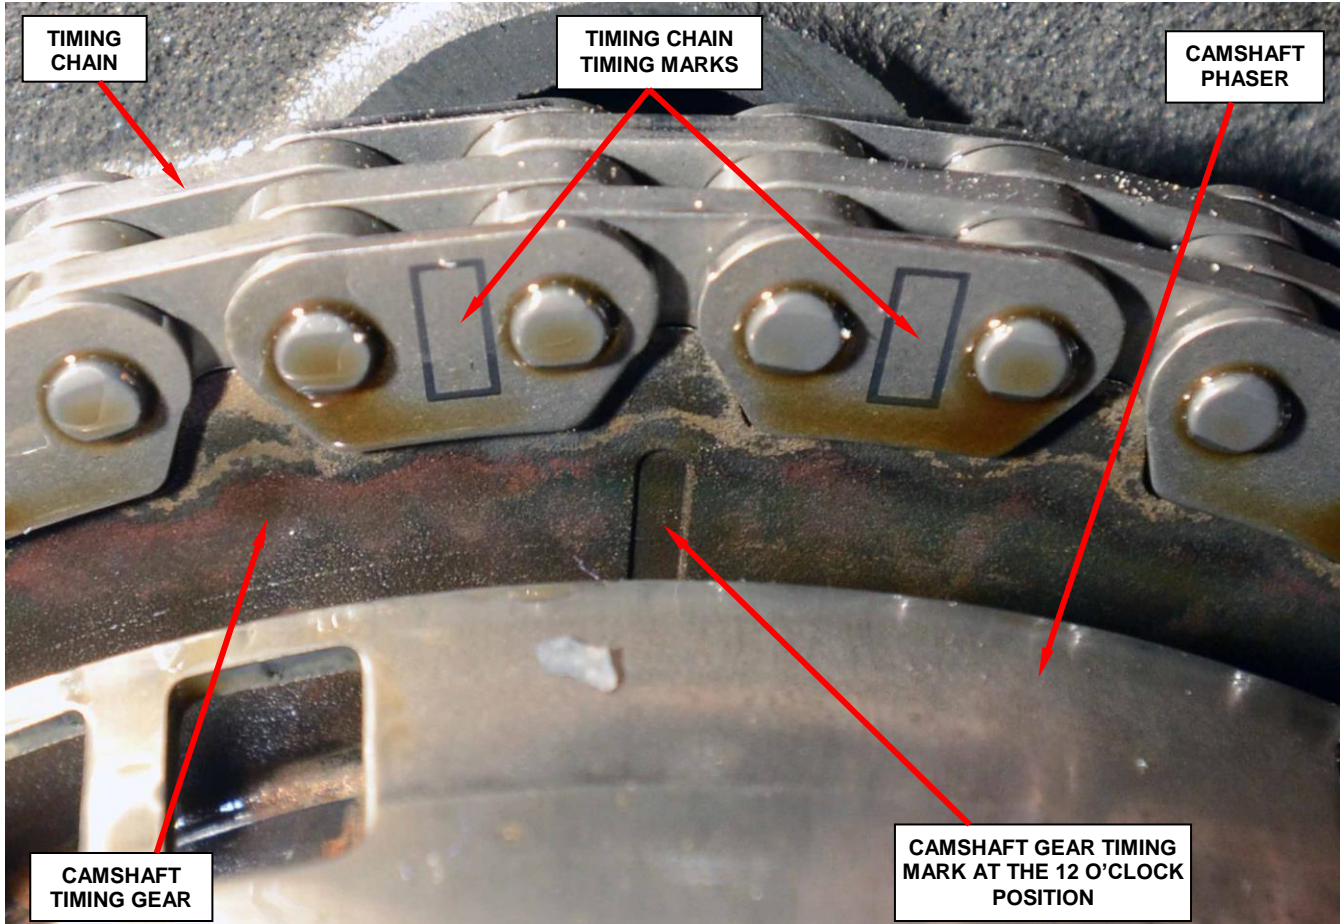

Figure 7 – Camshaft Gear and Timing Chain Marks
35. Bar the engine over by hand until the timing mark on the camshaft gear is aligned with the camshaft timing chain marks and all the marks are at the 12 o'clock position (Figure 7).